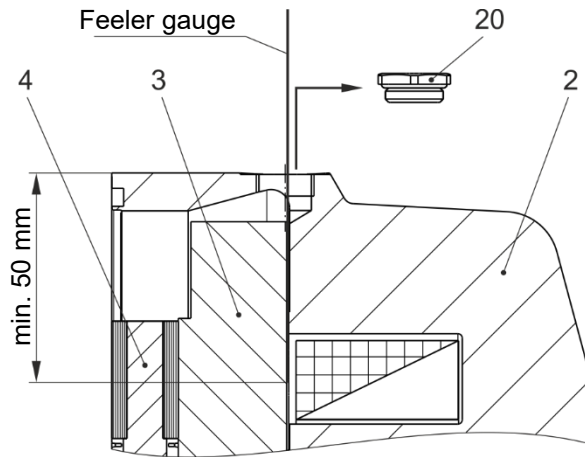

Fig. 8
The air gap can be inspected via a feeler gauge. The feeler gauge must be inserted at least 50 mm deep (see Fig. 8), so that the distance between the armature disk (3) and the coil carrier (2) can be measured.